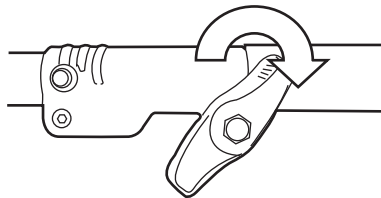

Fig. 2c
d). Secure the connection by tightening the locking knob (A14) clockwise. (See Fig. 2c)